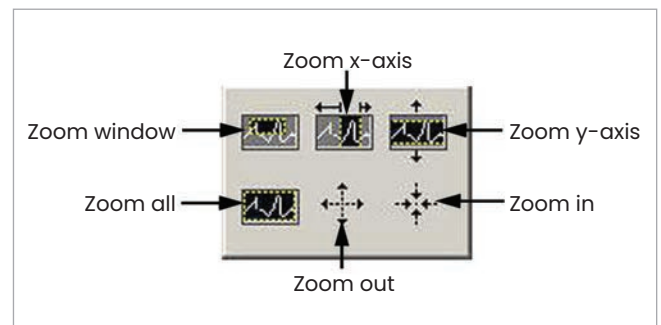

Figure 71: Zoom tool
- **Zoom tool** - gives you six options as shown in *Figure 71* below.